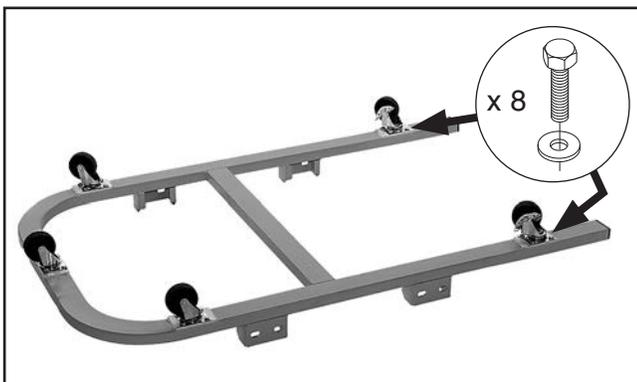

Figure 10. Locking swivel casters installed.
2. Install (2) 3" locking swivel casters to base stand using (8) $\frac{1}{4}$ "-20 x $\frac{3}{4}$ " hex bolts and (8) $\frac{1}{4}$ " flat washers (see **Figure 10**), then place base stand on casters.